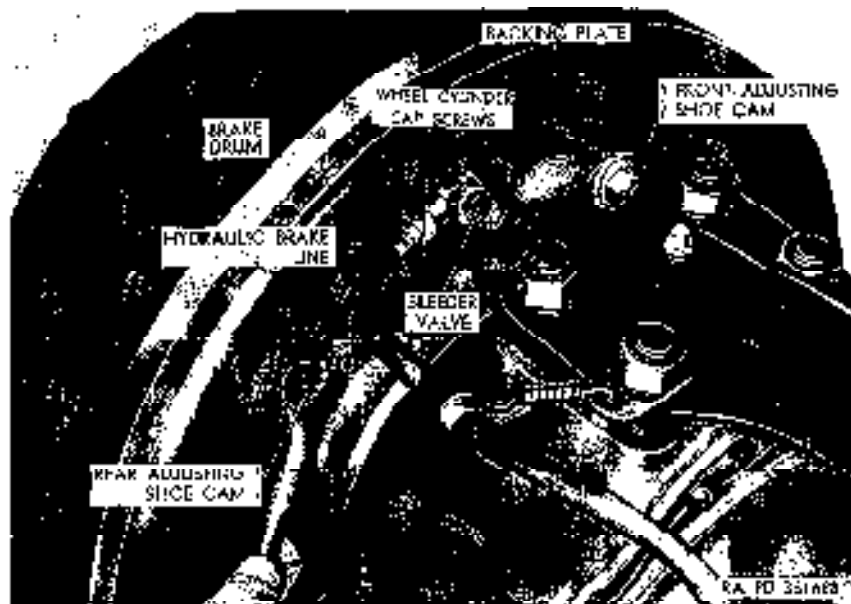

Figure 240. Turning adjusting shoe cam.
- (2) Turn rear adjusting cone cam (fig. 240) on each side of backing plate counterclockwise until brake drags slightly when wheel is turned by hand. Then turn adjusting cam clockwise just enough to allow wheel to rotate freely.
- (3) Turn forward adjusting cone cam (fig. 240) clockwise until brake drags slightly when wheel is turned by hand. Then turn adjusting cam counterclockwise just enough to allow
d. Bleeding Wheel Cylinders (fig. 240). Perform bleeding operations at each wheel cylinder (6 above).